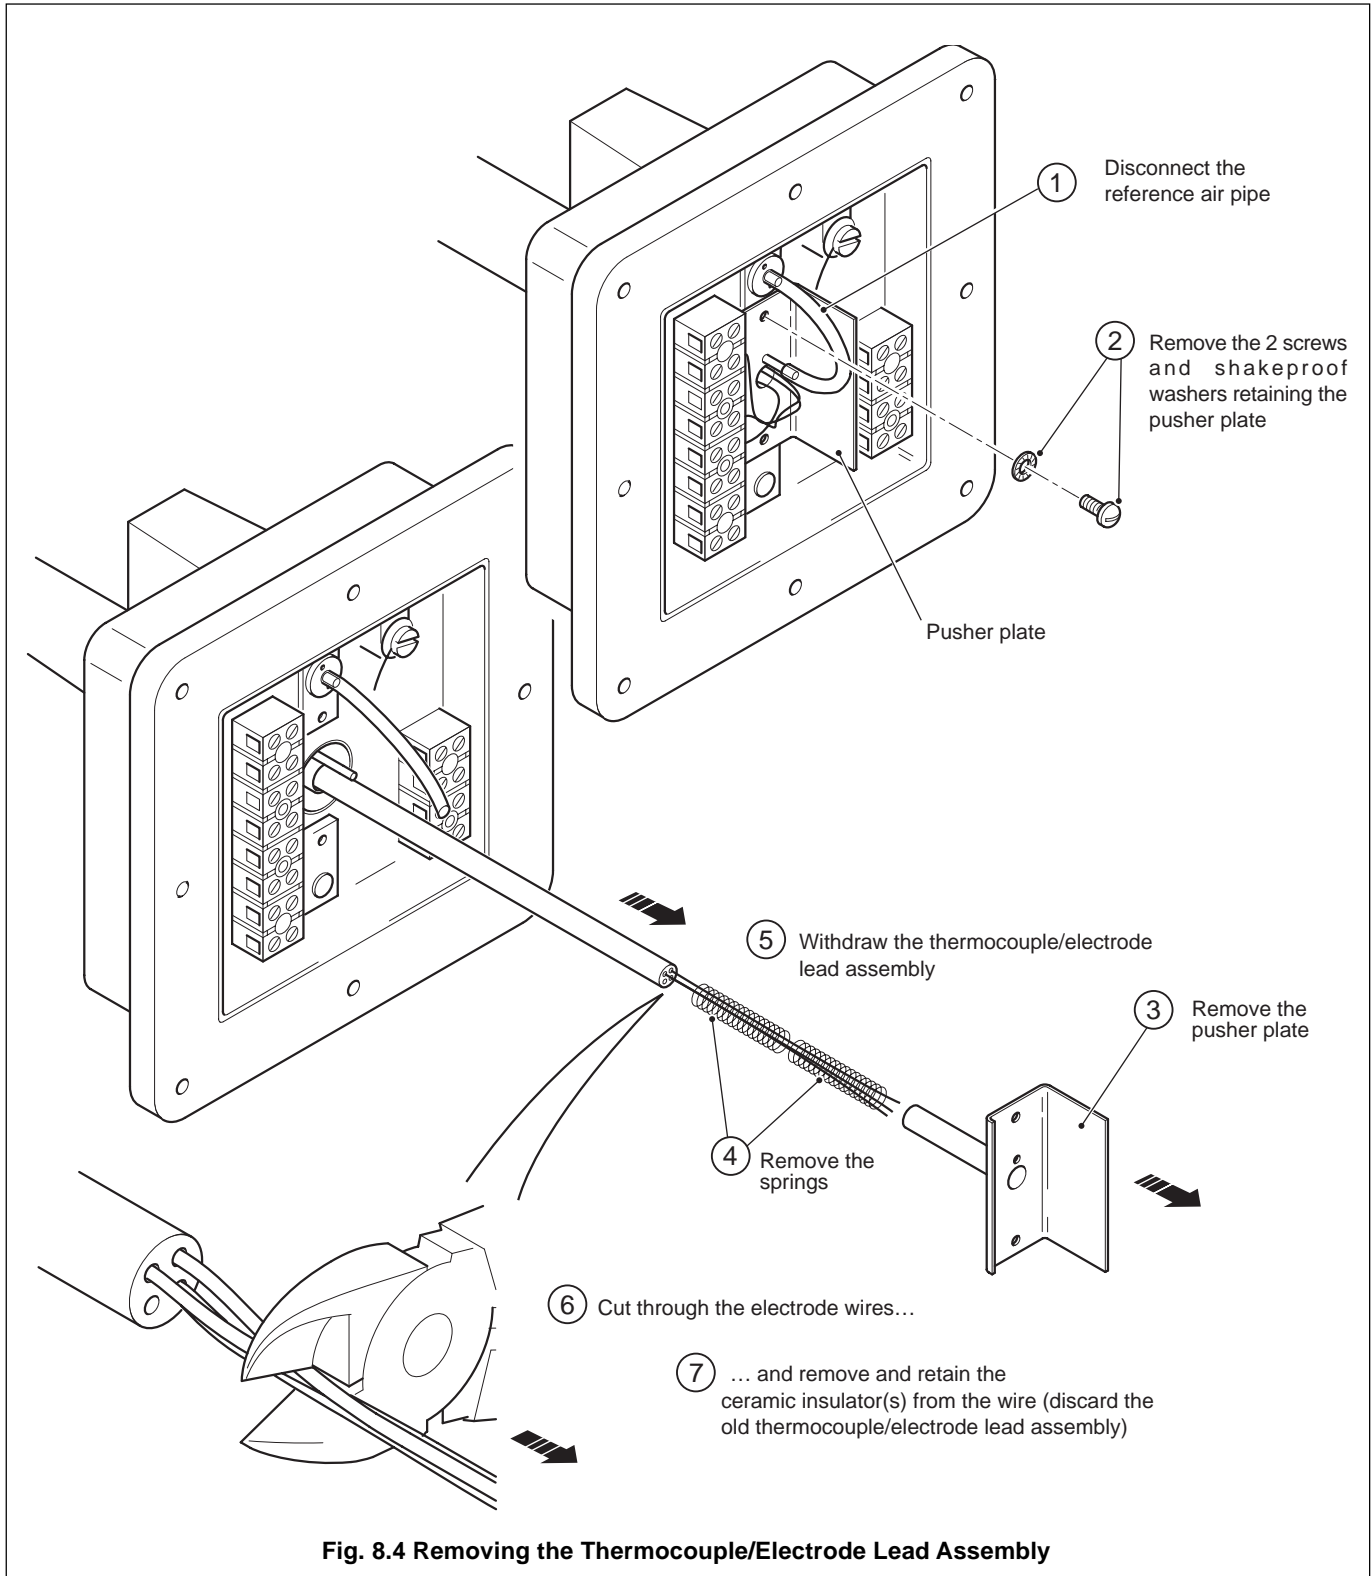

Fig. 8.4 Removing the Thermocouple/Electrode Lead Assembly
8.3.1 Removing the Thermocouple/Electrode Lead Assembly – Fig. 8.4
- c) Remove the thermocouple/electrode lead assembly as described in Fig. 8.4.